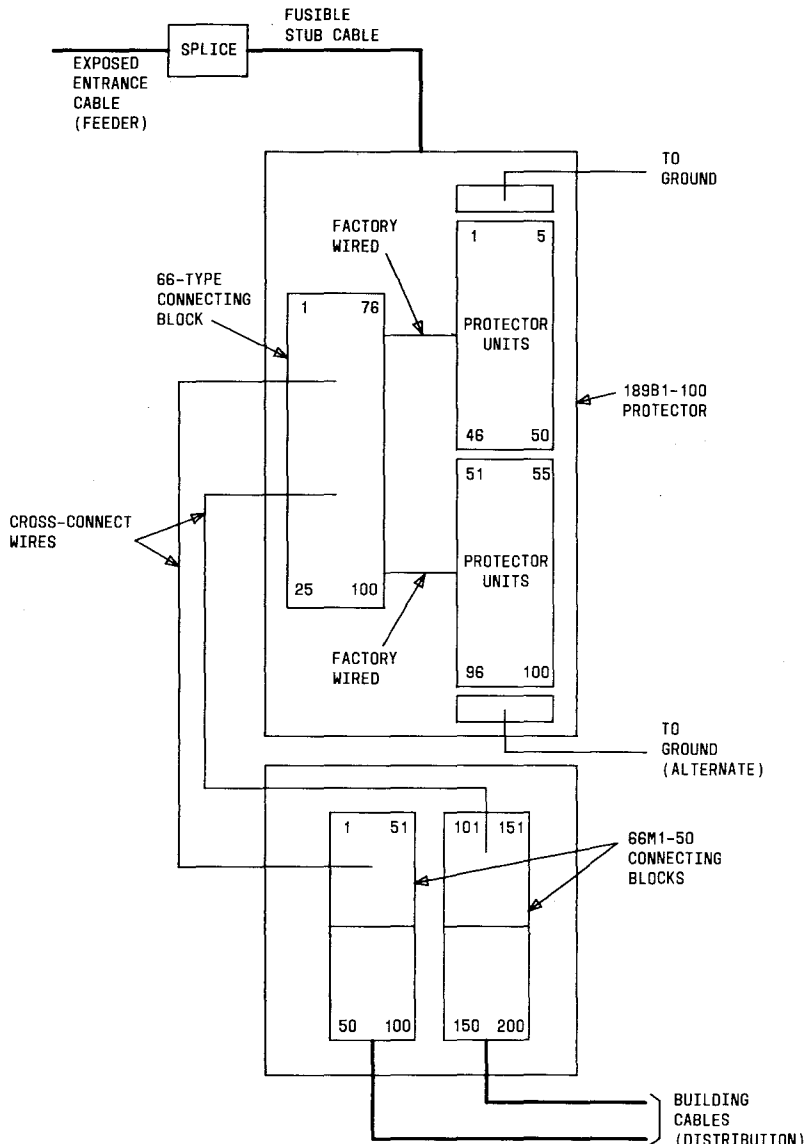

Fig. 9—Wiring Diagram for 189-Type Protector With 66-Type Output
2.04 The left side of the modular protector is equipped with either a 66-type connecting block or microribbon connector(s). It is factory wired to the protectors. Figures 9 and 10 show the wiring diagram for the 189-type protectors.